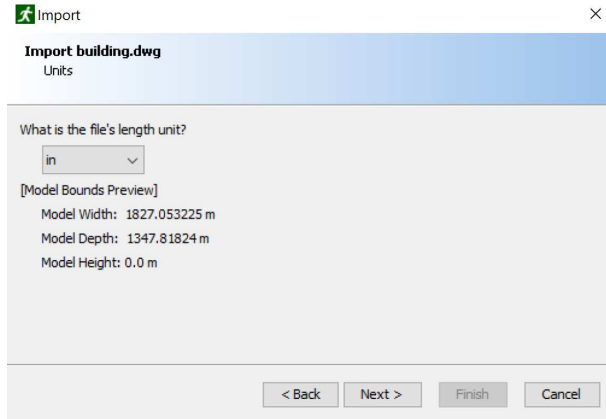

Figure 79. CAD import dialog (units)
2. After selecting a file, a step-by-step dialog will open as shown in Figure 79.